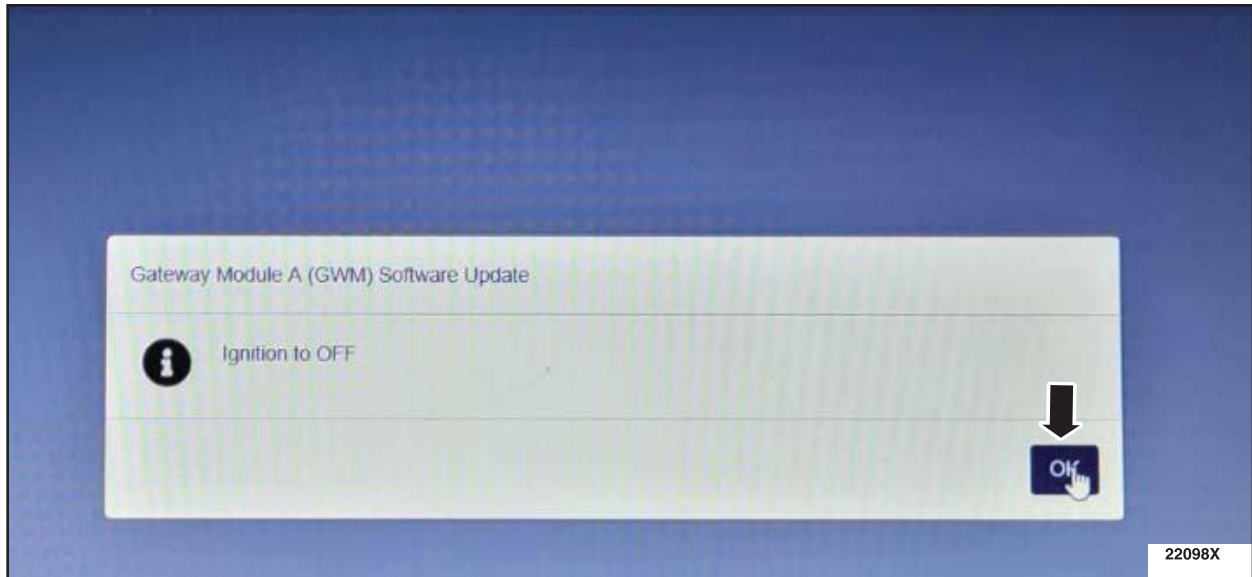

FIGURE 19
23. Turn ignition to off and click the OK icon on the FDRS screen. See Figure 19.